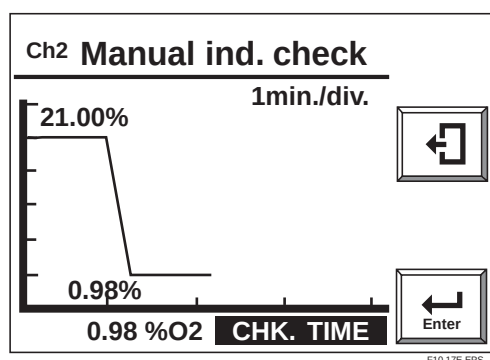

Fig. 10.17 Zero Indication Check
- 12) Select [Start ind. check] and touch the Enter key. An oxygen concentration graph like Figure 10.17 is displayed, and [CHK.TIME] status mark flashes. Wait for the graph measured value trace to stabilize. Compare the measured zero gas concentration displayed at the bottom of the display against the certified concentration of zero gas to check for any discrepancy or error.